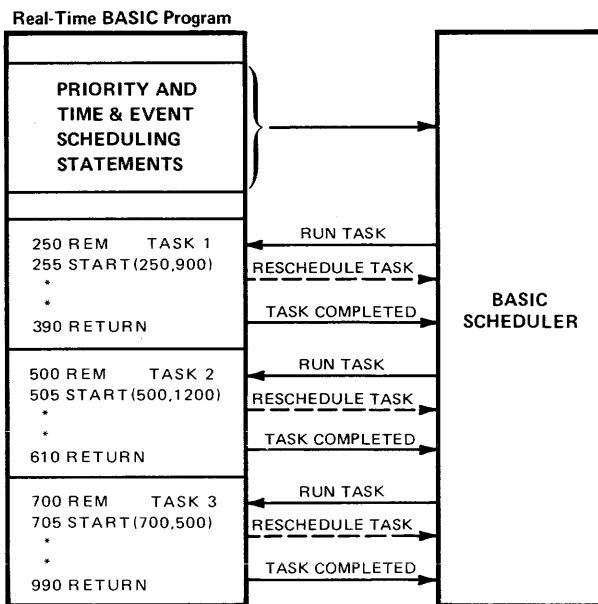

Figure 1. Program-Scheduler relationships
**Scheduling.** The multiple tasks in the RTE-B system are programmed as subroutines of a single Real-Time BASIC program, as shown in Figure 1. Real-Time BASIC includes statements that assign execution priority to tasks and provides statements to schedule tasks as a function of time, and to connect task subroutines to event interrupts, such as contact closures. A statement is also provided for rescheduling tasks to be repeated during the course of system operations. RTE-B recognizes priority levels from 1-99.